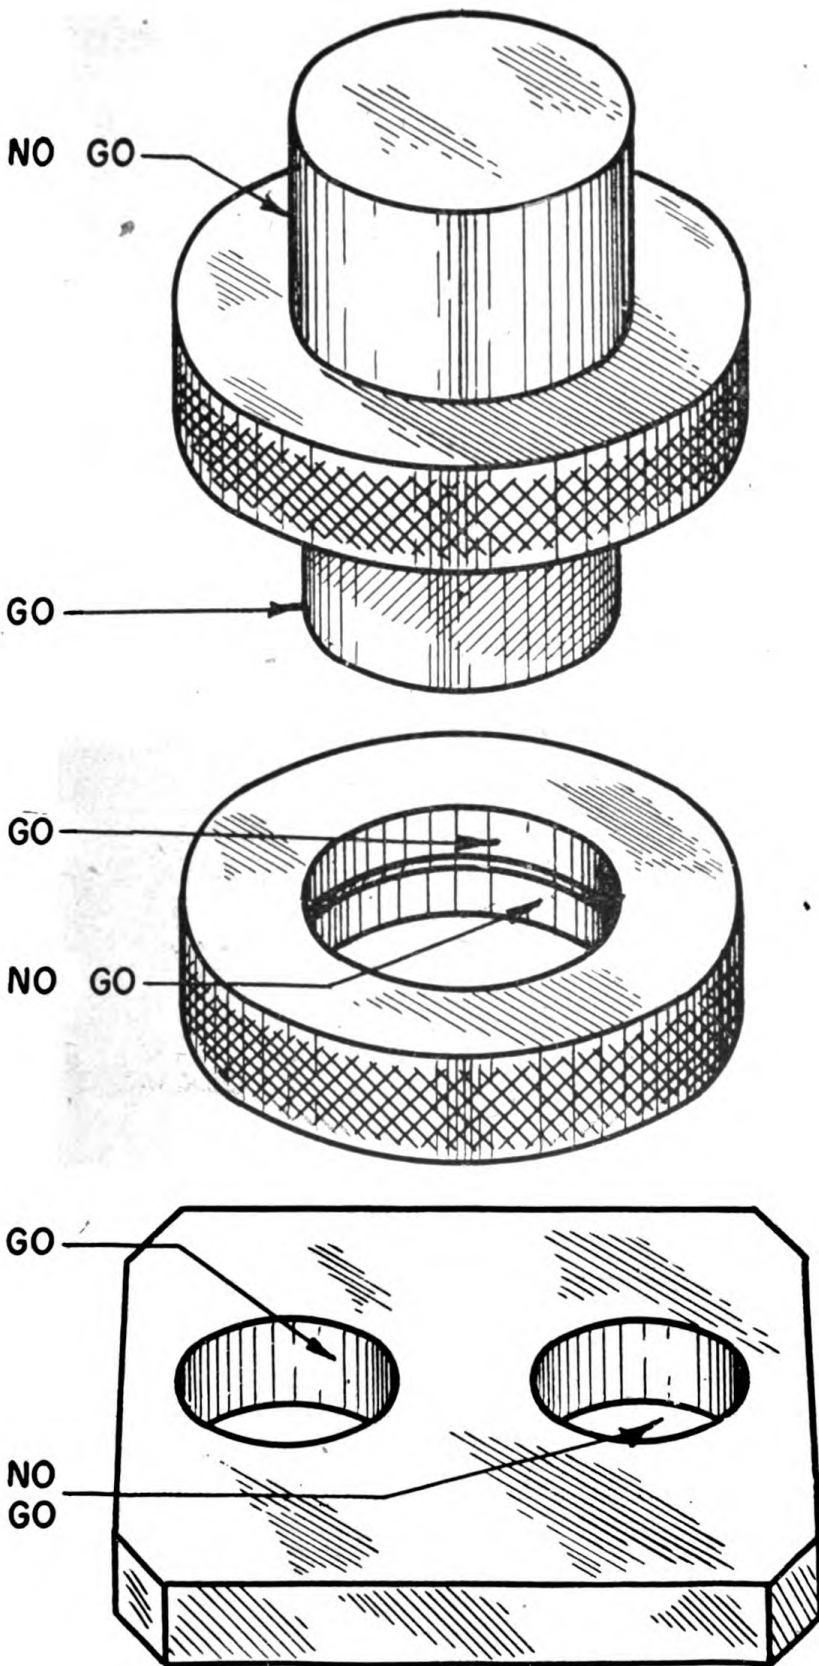

Figure 64. Go, no-go gauges.
*i. GO, NO-GO GAUGES.* Go, no-go gauges are used mostly in production work. One end is the go end and it should fit the machined part. The other is the no-go end and it should not fit. If the go end fits and the no-go does not, the part is within the specified tolerance. Two types of go, no-go gauges are shown in figure 64.